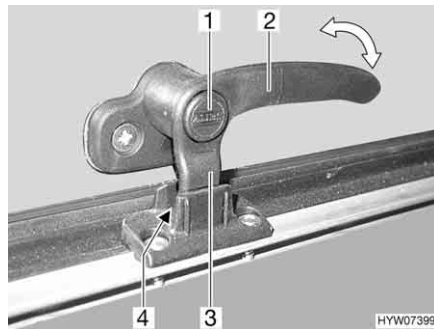
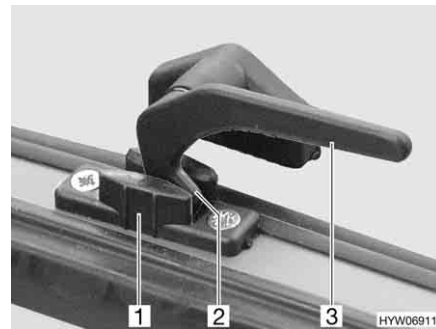

Fig. 79 Catch lever with safety knob in "continuous ventilation" position
Fig. 80 Catch lever in the "continuous ventilation" position
- "Continuous ventilation" (Fig. 79 and Fig. 80)
- Press and hold the security button (Fig. 79,1), if present.
- Turn the catch lever (Fig. 79,2 or Fig. 80,3) a quarter turn towards the centre of the window.
- Return the catch lever to its initial position. Move the locking catch (Fig. 79,3 or Fig. 80,2) on the catch lever into the recess of the window catch (Fig. 79,4 or Fig. 80,1).